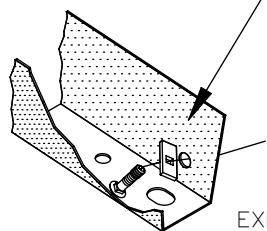

FIGURE 2.
3. FISHWIRE CARRIAGE BOLT AND 1/4 X 1 X 2 BLOCK THROUGH ACCESS HOLE AT END OF FRAME. KEEP BOLT AND BLOCK INSIDE FRAME UNTIL HITCH IS IN POSITION. LEAVE FISHWIRE ON CARRIAGE BOLT TEMPORARILY. SEE FIGURE 2.